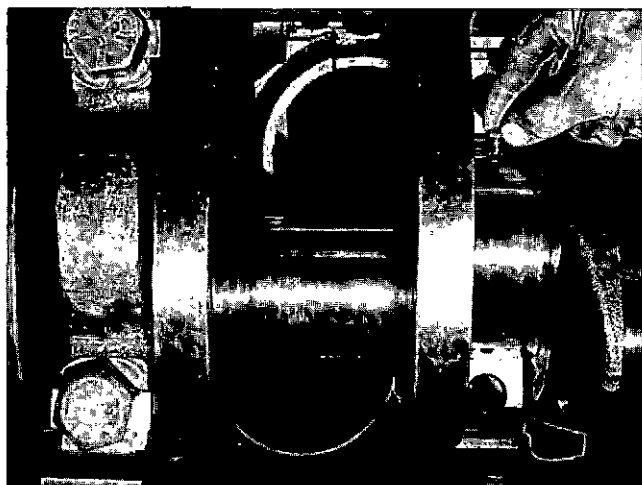

Fig. 14-1-8, V414110. Installing pin for turning out main bearing shell
3. Insert a 7/32 inch [5.5562 mm] by 1/2 inch [12.7000 mm] pin with a head 3/32 inch [2.3812 mm] thick into drilled hole of shaft. Fig. 14-1-8.